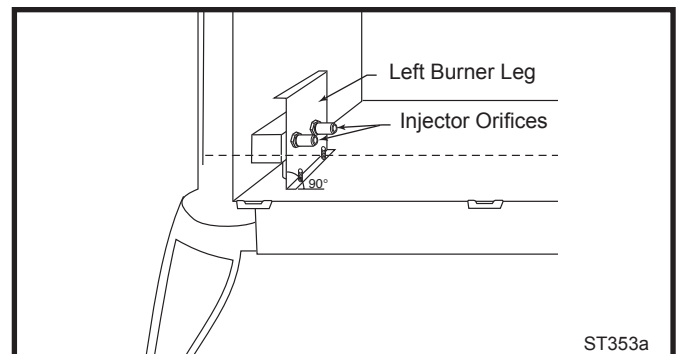

Fig. 39 Remove and replace injector orifices.
2. Remove injector orifices from left burner leg using 1/2" wrench. (Fig. 39)
NOTE: It is very critical to keep the left burner leg, which holds the injectors, at a 90° angle to the base. (Fig. 39) This keeps the orifices aligned with the tubes inside burner. Failure to do so could affect the flame appearance and performance of the unit.